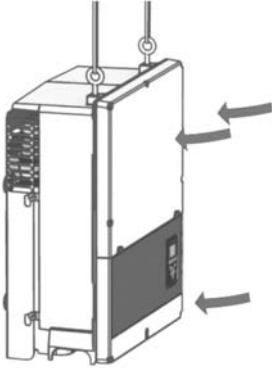
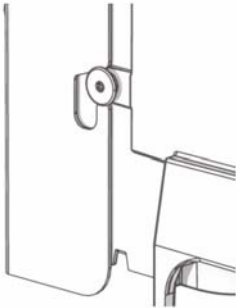

Figure 2.13 Sliding the screws into the slots
Figure 2.14 Detail of sliding into slot
3. Push the inverter as shown so the side screws slide into the two lower slots and the two upper slots. See figure 2.13 and figure 2.14.